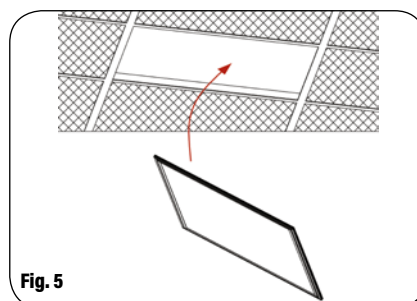

Fig. 5
1. Lift up four mounting clips on the sides of the luminaire. You can do it by hand (wear work gloves) or use pliers. (Fig. 5)